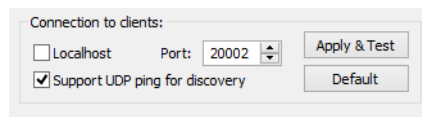

Figure 4-80: Connections to Clients Box
1. In the **Connections to Clients** box (Figure 4-80), make changes to the server settings if needed.